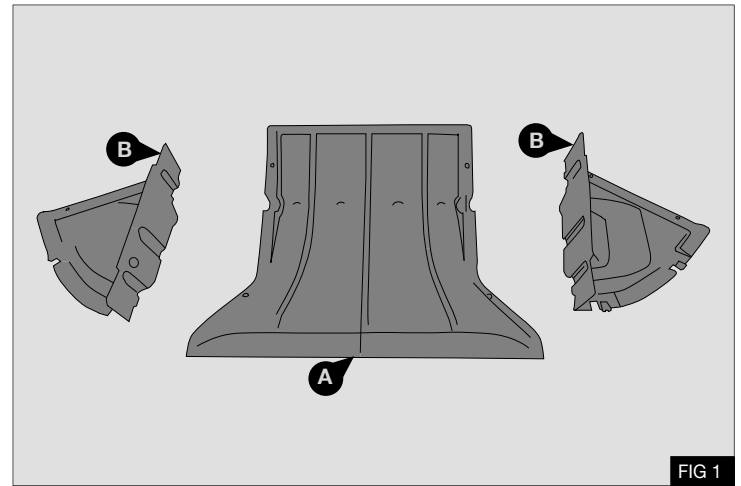

FIG 1
3. Remove under panel (A) - Fig 1
4. Remove lower plastic guards (B) from the bumper sides - Fig 1